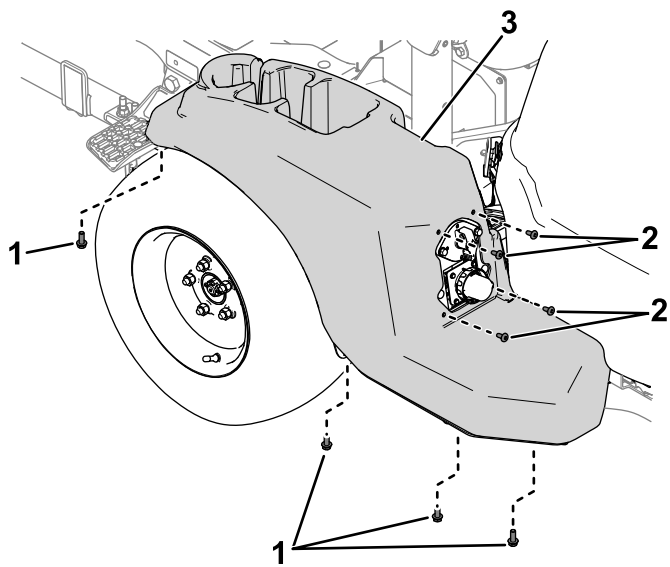

Figure 1
1. Remove the bolts and screws that secure the cover to the left side of the machine (Figure 1) and remove the cover.